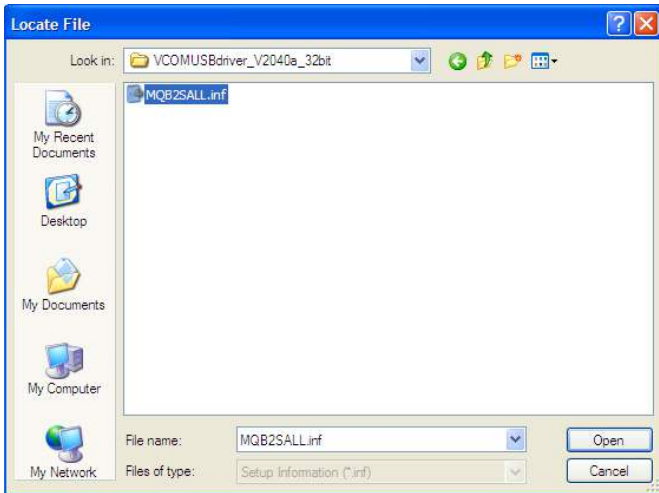

Figure 7. Open Hardware Driver
8. Find **MQB2SALL.inf** in *VCOMUSBdriver_V2040a_32bit* or *VCOMUSBdriver_V2040a_64bit* according to your PC OS, select it and click **Open** (See Figure 7).